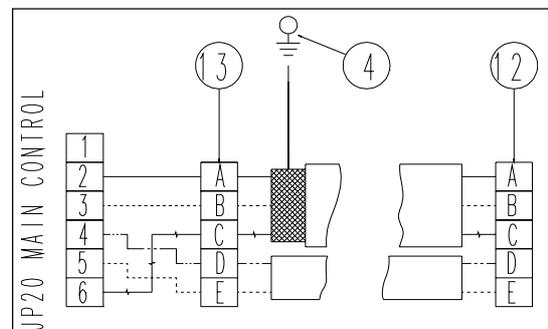

Figure 9. A: white, B: brown, C: grey, D: green, E: yellow.
- 10) Remove insulation on the loose end of the 20 cm cable with socket and connect it to the terminal strip, see Fig. 9 (13).